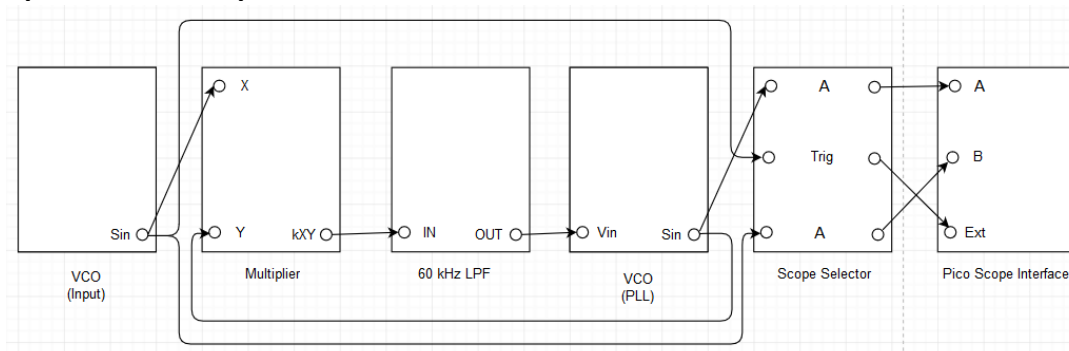

Figure A.3.3: Setup for PLL.
- v. Make the PLL setup as shown in the Figure A.3.3.